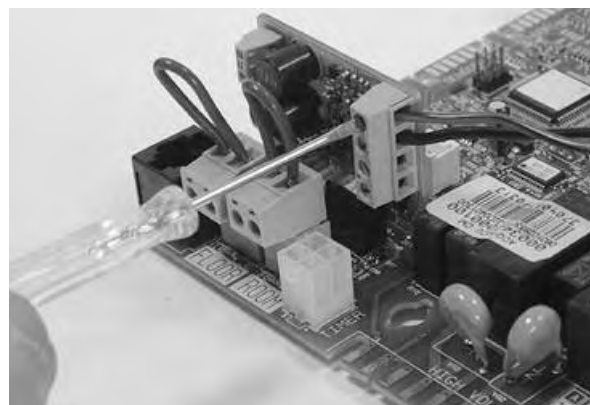

Fig. 106
2. Install the interface PCB supplied in the external sensor kit on the main PCB (see Fig. 106)
3. Connect the wires between the external sensor and the interface (see Fig. 106).